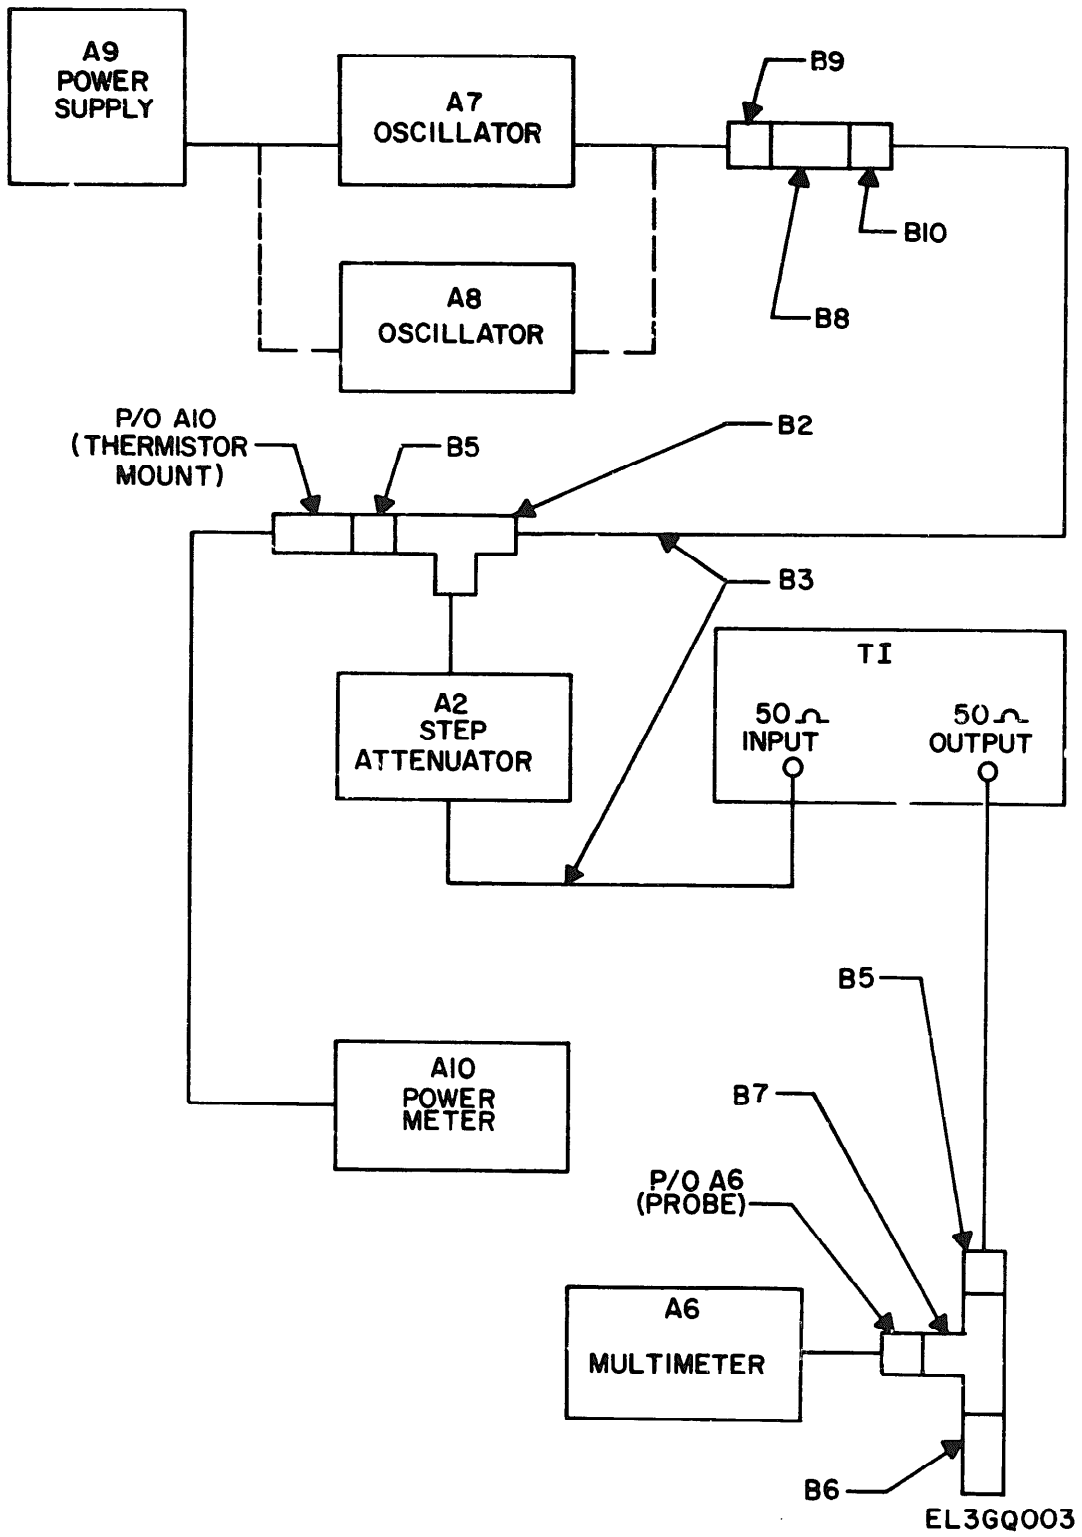

Figure 3. *High Frequency Response Setup.*
(2) Adjust signal generator OUTPUT AMPLITUDE control for panel meter indication of 0.3 vrms. Set step attenuator DB switch to 40.
(3) Adjust multimeter AC BAL control for multimeter indication of 0.3 vrms.
(4) Maintain constant signal generator output amplitude and adjust for frequencies listed in table 4. At each frequency setting, multimeter indicates between 0.27 and 0.33 vrms.
(5) Connect equipment as shown in figure 3 with oscillator (A7).